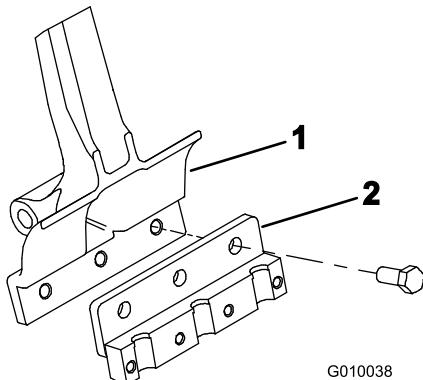

Figure 22
2. Mount a tine holder to each tine arm with 3 bolts (1/2 x 1-1/4 inches) (Figure 22). Torque the bolts to 101.6 N·m (75 ft-lb).